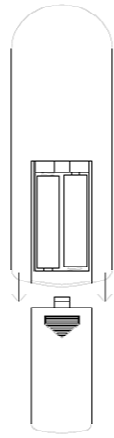

FIG 8
1. Prior to use, the remote control handset requires installation of the two included AAA batteries (Figure 8).